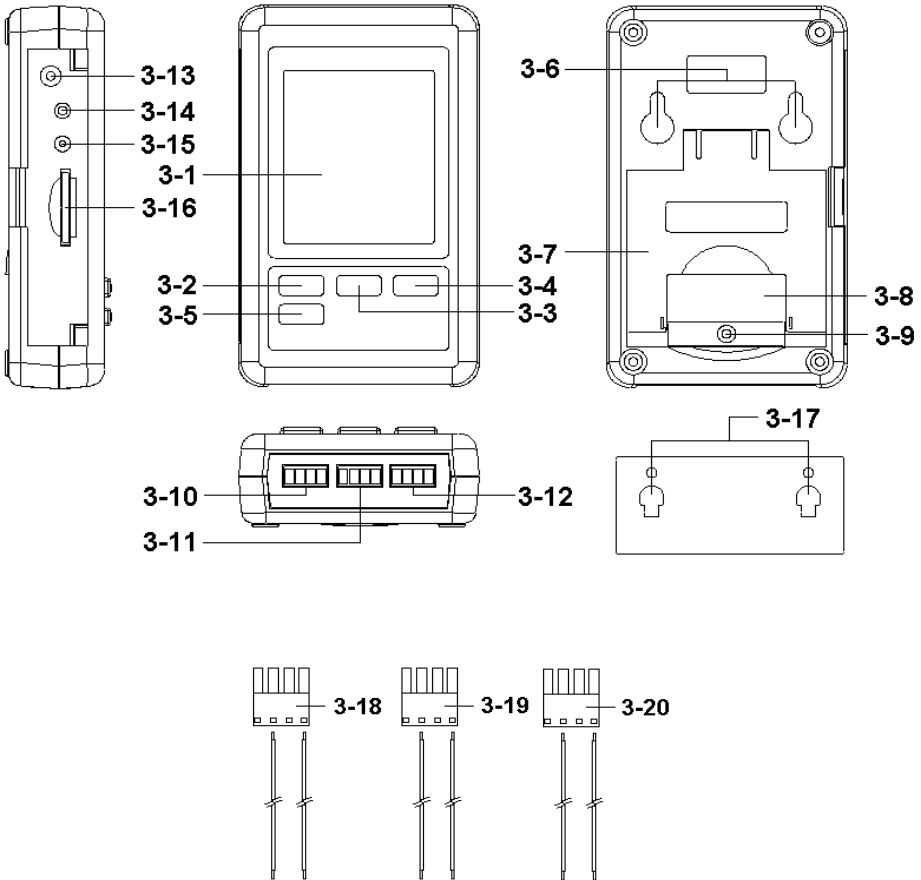

Fig. 1
- * Loose the " Screw of the battery cover " (3-9, Fig. 1) and take away the " Battery Cover " (3-8, Fig. 1) from the meter.
- * Plug the output plug of " AC to DC adapter " into the " DC 9V power adapter input socket " (3-13, Fig. 1)
4-20 mA CH 1 input plug (3-18, Fig. 1)
4-20 mA CH 2 input plug (3-19, Fig. 1)
4-20 mA CH 3 input plug (3-20, Fig. 1)
- 4-20 mA CH 1 input socket (3-10, Fig. 1)
- 4-20 mA CH 1 input socket (3-11, Fig. 1)
- 4-20 mA CH 1 input socket (3-12, Fig. 1)
Prepare a " SD memory card " (1 GB to 16 GB, optional), insert the SD card into the " SD card socket " (3-16, Fig. 1) with the correct direction exactly.
Press the " Logger button (3-2, Fig. 1) > 2 seconds continuously, until the Display show the indicator " DATALOGGER ", release the " Logger Button " (3-2, Fig. 1), then the measuring data along the time information will be saved into the memory circuit.
During execute the Datalogger function (Display show the " Datalogger " indicator), press the " Logger button " (3-2, Fig. 1) > 2 seconds continuously, until the Display indicator " DATALOGGER " is disappeared, release the " Logger Button " will finish the Datalogger function.
Press " Time button " (3-3, Fig. 1) > 2 seconds continuously, the LCD display will present the time information of Year/Month/Date, Hour/Minute/Second and the sampling value.